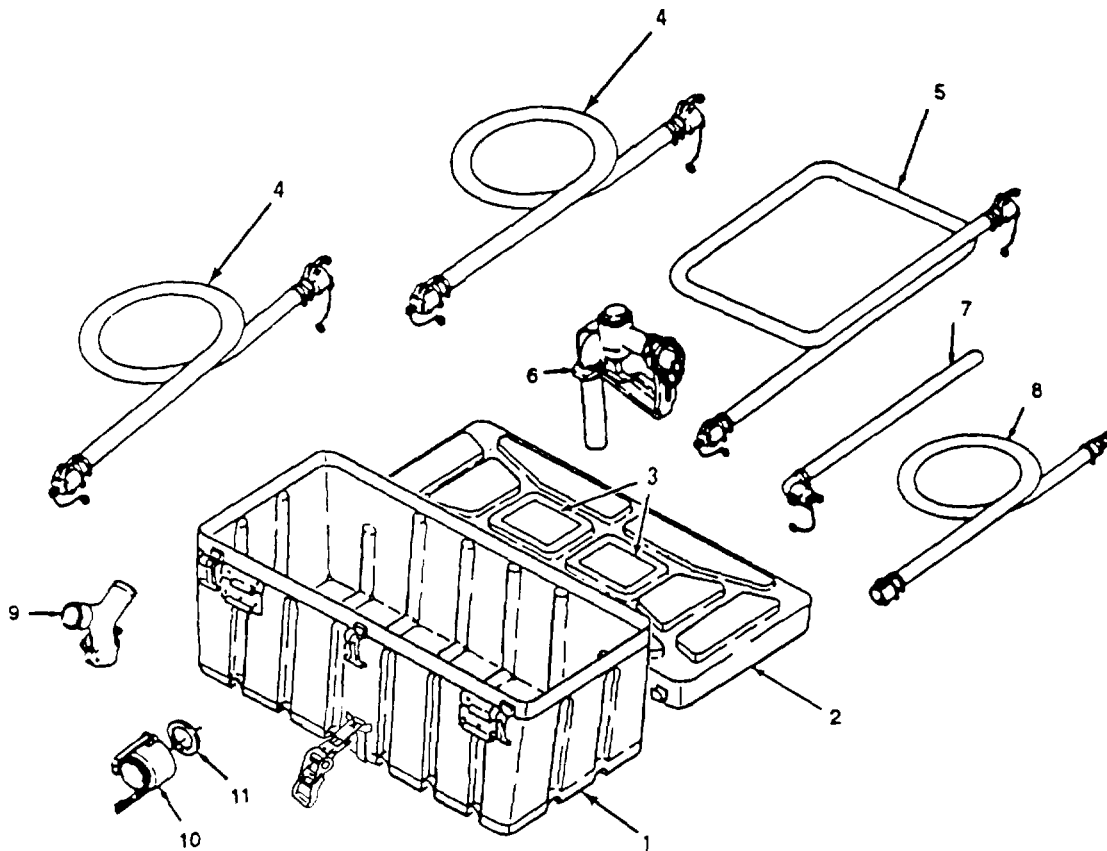

Figure 1-3. Storage Chest 1 and Related Pump Accessories
- (4) Engine air intake baffle. This baffle combines with the enclosures to direct air to the air cleaner and the flywheel fan. Additionally, during cold weather starting procedures, this baffle encloses a space that is warmed by the engine intake heater.
- (5) Intervehicle power cable electrical plug connector. This electrical connector is used during pump unit operation in cold weather. It allows the pump assembly to be connected to the 24 volt DC electrical systems of Army vehicles. Pump assembly has two internal electric heaters that are used during cold weather starting of the pump assembly. The intake air heater warms air coming into the enclosure and the engine intake air. The engine oil is warmed by an immersion heater installed into the side of the engine facing the sound enclosure rear panel assembly. Controls and indicators for the two heaters are mounted on the sound enclosure front panel assembly. This electrical connector has an attached dust cover to prevent damage and contamination when connector is not in use.
- (6) Intake air heater. This 400 watt finned heater runs on 24 volts DC supplied from the intervehicle power cable electrical plug connector. The heater mounts on the pump frame.
- (7) Immersion heater. This 75 watt immersion heater runs on 24 volts DC supplied from the intervehicle power cable electrical plug connector. The engine has accommodations for an oil dipstick to be mounted on either side of the engine. This heater threads into the unused oil dipstick location on the engine crankcase facing the sound enclosure rear panel assembly.
- (8) Pump frame. The pump frame provides mounting points for the sound enclosures, pump and motor assembly, air intake heater, ground rod attachment, etc. It rigidly supports all components of the pump unit and provides 4 folding handles to allow 4 soldiers to move the pump assembly as required.
- (9) Pump suction connection. The connection to the suction side of the centrifugal pump is made through a 1.5 inch nominal ID female quick disconnect. Installed in this fitting is an internal gasket. When the pump unit is not in use, a male quick disconnect dust plug is installed to protect the centrifugal pump from contamination.
- (10) Pump discharge connection. The connection to the discharge side of the centrifugal pump is made through a 1.5 inch nominal ID male quick disconnect. When the pump unit is not in use, a female quick disconnect dust cap is installed to protect the centrifugal pump from contamination. During pumping unit set up, the pump discharge connection is also used to prime the pump with the liquid to be pumped. Installed in this female quick disconnect is an internal gasket.
- (11) Diesel engine. Four-stroke, vertical cylinder, air-cooled diesel. Provides power necessary to drive the pump. Diesel engine is attached to the engine mounting plate. The engine mounting plate is attached to the pump frame using rubberized shock mounts to reduce noise and vibration during pumping operation. A grounding strap electrically connects the engine (and the attached centrifugal pump) to the frame. During pumping operation, a ground rod is attached to the frame to prevent static electricity buildup.
- (12) Centrifugal Dump. Continuous duty, self-priming, 50 GPM at 100 feet of head. This pump incorporates a check valve on its suction side. The centrifugal pump is mounted to the diesel engine and is keyed to the engine's output shaft.
- (13) Spark arrestor. This baffle assembly suppresses engine exhaust sparks. The spark arrestor is mounted on the engine.
c. Storage Chest 1 and Related Pump Accessories (See Figure 1-3).
- (1) Storage Chest 1 Bottom (one each)
- (2) Storage Chest 1 Top (one each)
- (3) Storage Chest 1 Information Plate (one each)
- (4) Discharge Hose Assembly (two each)